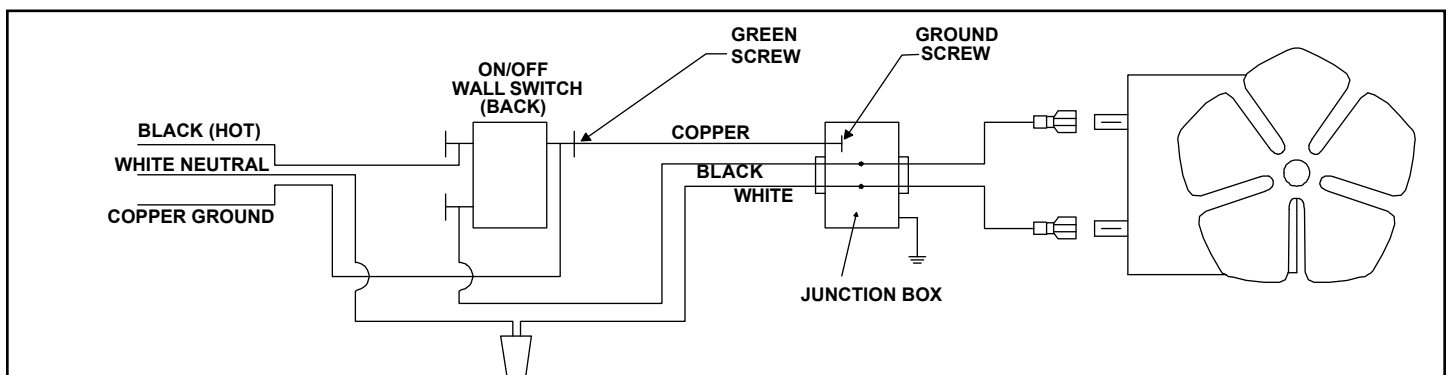

Figure 3.
- Wire the fan to the wall switch. See Figure 3. Attach the junction box to the fan duct assembly. Use the strain relief to secure the wire through the wall of the junction box.